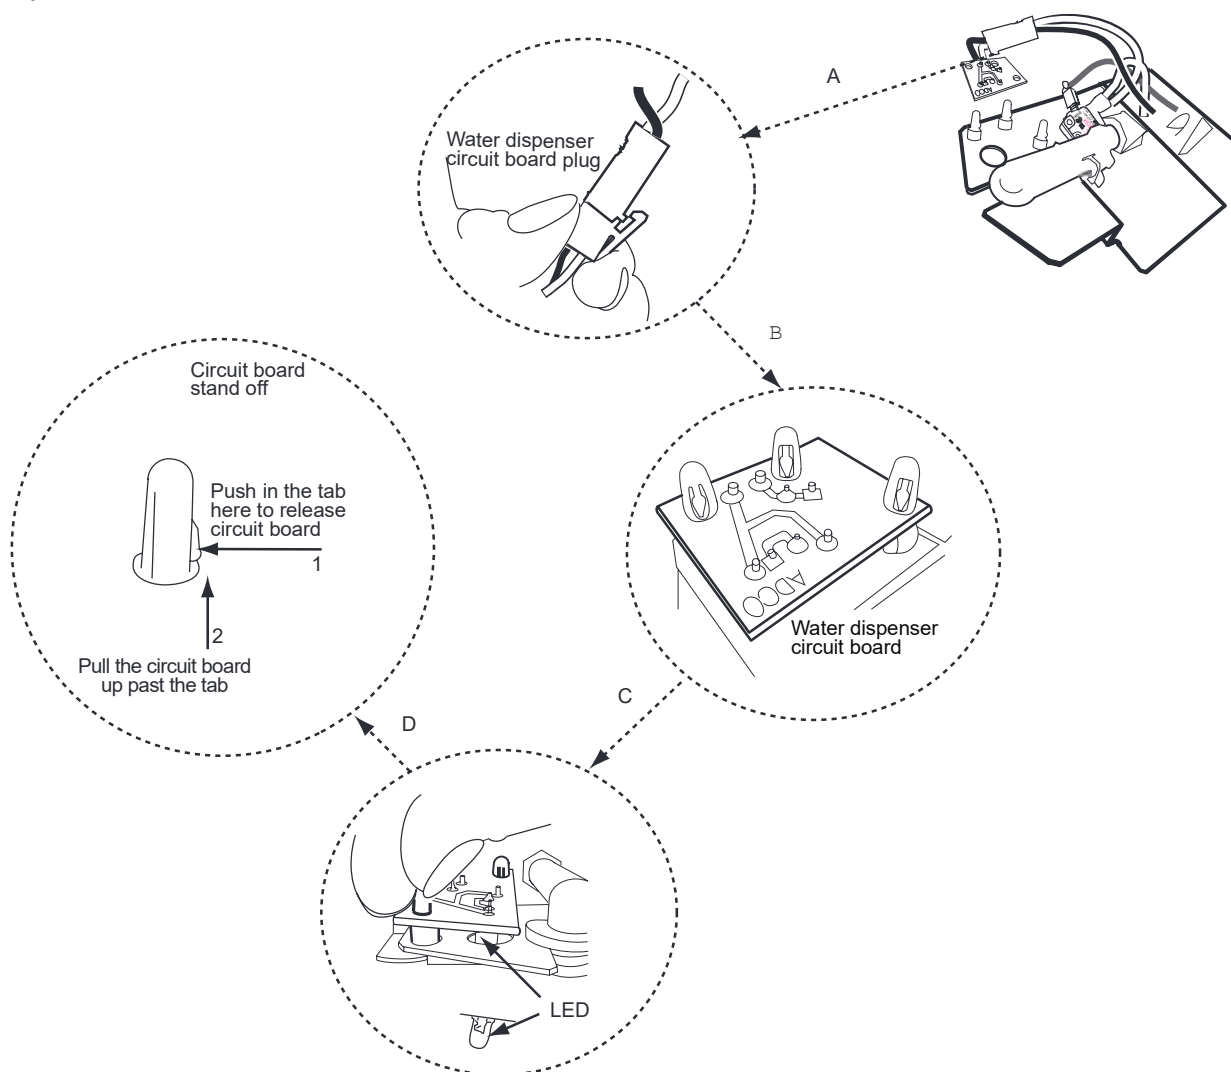

Figure. 11-11. —LED circuit board replacement
5. Disconnect circuit board from circuit. See Figure 11-11, A
6. Remove circuit board from bracket. See Figure 11-11, B, C and D.